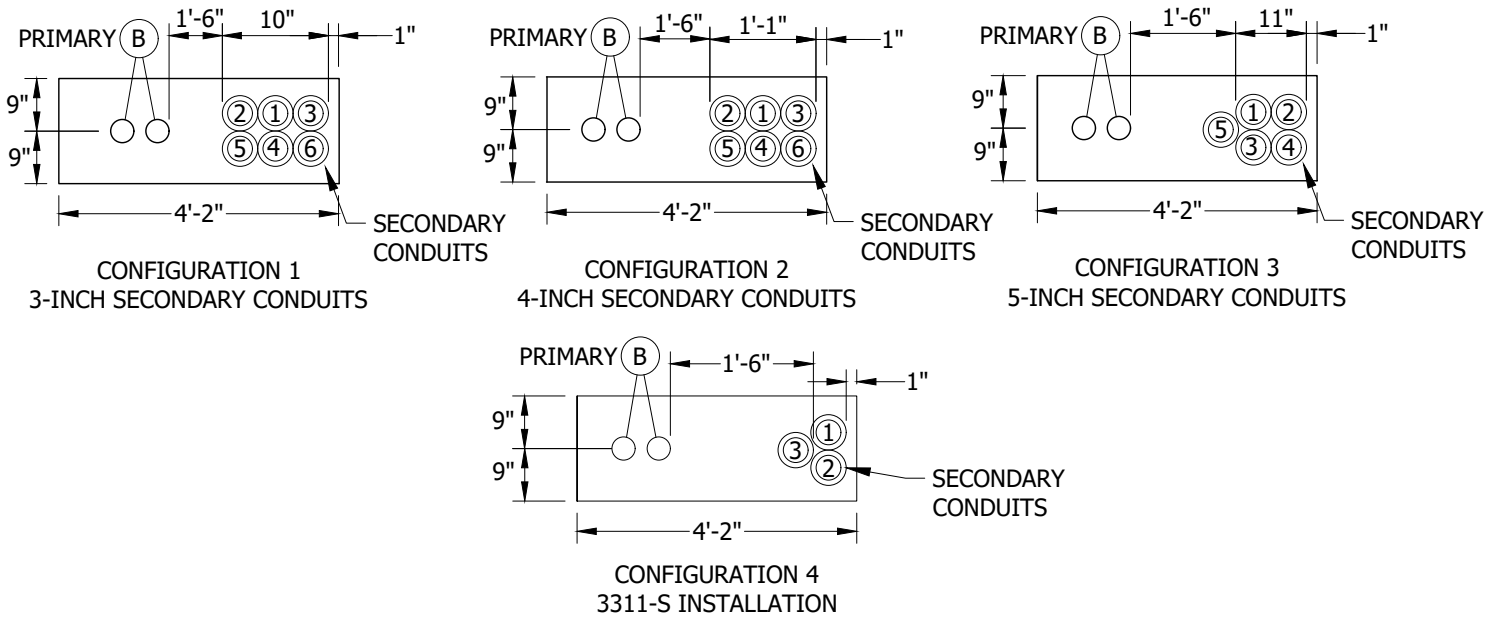

FIGURE 2
- (A) 1-INCH EARTH IN THE BOTTOM OF TRENCH IS REQUIRED TO PREVENT DAMAGE FROM ROCKS, SAGS AND POCKETS.
- (B) PLACE ALL SECONDARY CONDUITS WITHIN THE PAD OR HANDHOLE OPENING AS SHOWN IN FIGURES 2 THROUGH 5. TERMINATE PRIMARY OR SECONDARY CONDUITS FLUSH WITH THE TOP OF THE PAD. WHEN A HANDHOLE IS REQUIRED FOR SECONDARY CONDUITS, TERMINATE THEM NOT LESS THAN 3 INCHES ABOVE BOTTOM OF HANDHOLE. DO NOT CUT INTO THE CURVED PORTION OF THE ELBOWS. RADIUS OF CURVATURE IS 36 INCHES MINIMUM FOR 3-INCH, 4-INCH AND 5-INCH CONDUITS.
- (C) THE CONDUIT CONFIGURATION REQUIREMENT BETWEEN TERMINATING POINTS LIMITS THE SECONDARY CONDUIT CONFIGURATION TO TWO WIDE X FIVE DEEP OR FIVE WIDE X TWO DEEP (NO ONE CONDUIT IS TO BE COMPLETELY SURROUNDED ON ALL FOUR SIDES BY OTHER CONDUITS), USING SPACERS AND 1-SACK CONCRETE SLURRY BACKFILL. CONDUITS MAY ALSO BE INSTALLED SIDE BY SIDE ON THE BOTTOM OF THE TRENCH WITHOUT SPACERS OR CONCRETE SLURRY (FOUR CONDUITS MAXIMUM.). IN THE TRANSITION AREA WHERE THE CONDUITS FROM THE BOTTOM OF THE TRENCH START TOWARD THE SURFACE (THE STRAIGHT PORTION BY THE 90 DEGREE BEND), SPACERS MAY BE REQUIRED TO ALLOW THE 90 DEGREE BENDS TO ENTER STRAIGHT INTO THE PAD OPENING. AT THE SURFACE POINT, THE CONDUITS MAY BE BUNDLED TOGETHER. USE SDG&E APPROVED BASE, SHADING AND BACKFILL.
- (D) THE TOP AND INTERMEDIATE 3314 HANDHOLE SECTIONS MAY BE ELIMINATED WHEN INSTALLATION SERVES ONLY ONE CUSTOMER ULTIMATELY AND CONDUIT REQUIREMENTS DO NOT EXCEED WHAT IS SHOWN IN FIGURE 2 OR AS SPECIFIED IN NOTE E. IF MORE THAN FIVE 5-INCH CONDUITS ARE USED (REGARDLESS OF THE NUMBER OF CUSTOMERS), ONE TOP SECTION AND TWO INTERMEDIATE SECTIONS ARE REQUIRED.
- (E) **FOR SECONDARY INSTALLATION WITHOUT A HANDHOLE (ULTIMATELY ONE CUSTOMER ONLY)**, ANY COMBINATION OF 3-INCH, 4-INCH OR 5-INCH SECONDARY CONDUITS MAY BE USED PROVIDED THEY DO NOT EXCEED A TOTAL OF SIX OR THE TOTAL OF EACH SIZE CONDUIT SHOWN IN FIGURE 2. TWO EXTRA 1-INCH OR TWO EXTRA 2-INCH CONDUITS MAY BE ADDED TO SERVE STREET LIGHT, RECREATION BUILDINGS, ETC.